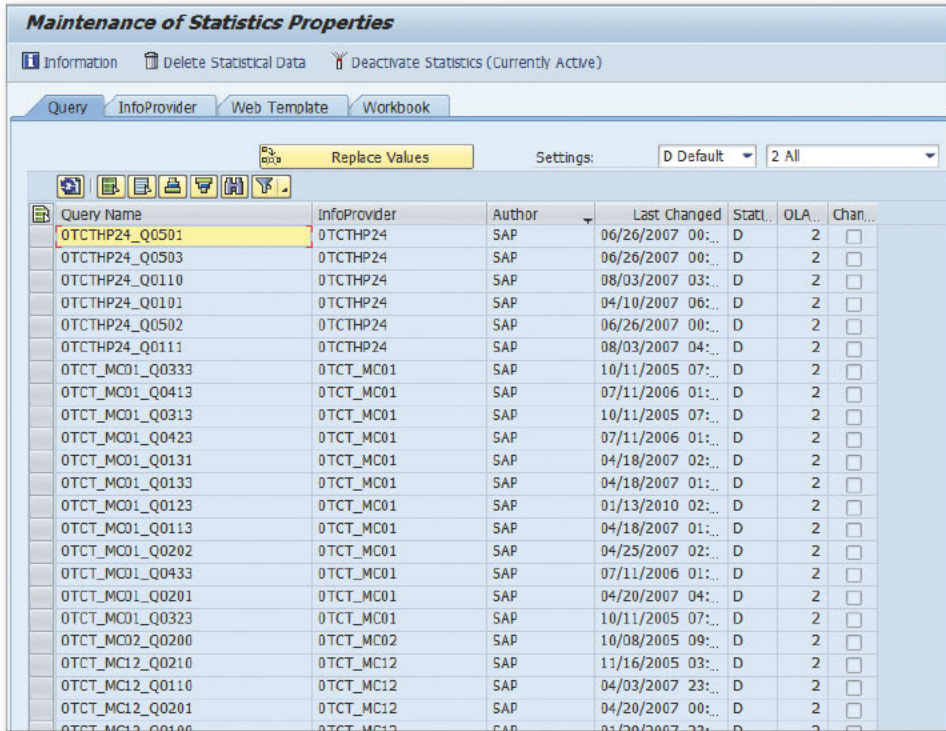

Figure 1 RSDDSTAT Initial Screen
1. Execute Transaction RSDDSTAT in the Administrator Workbench. This will display the screen shown in Figure 1.